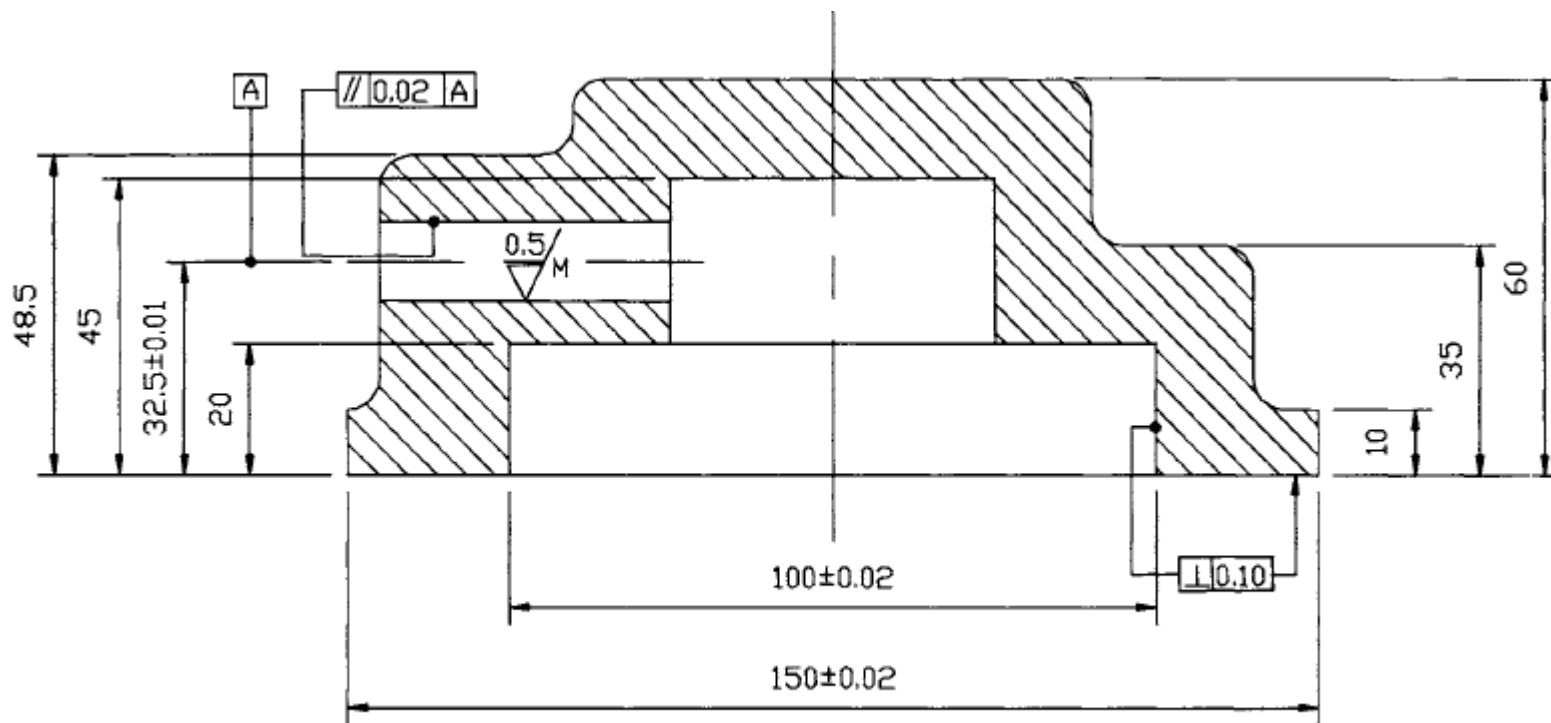

Figure 3.22 Sectional view of part for worked example
- *The bearing housing shown in Fig. 3.22 below has to be manufactured and the process planner has been given the detail drawing for*